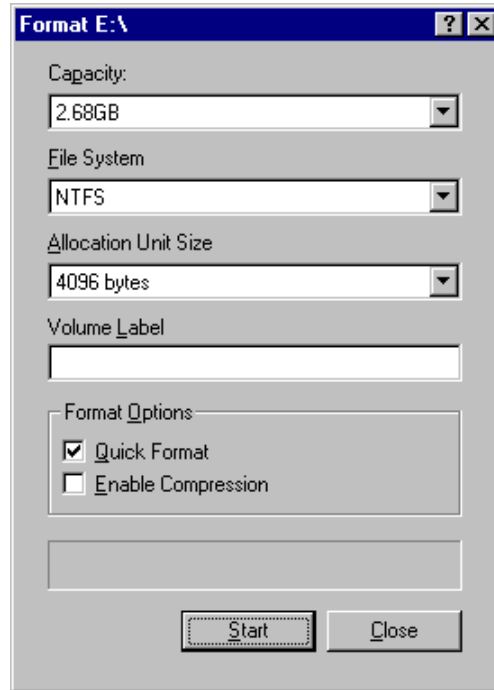

Figure 1-5 Windows NT 4.0 Formatting Window
4. Select **Format** from the **Tools** menu. The **Formatting** window (Figure 1-5) appears.